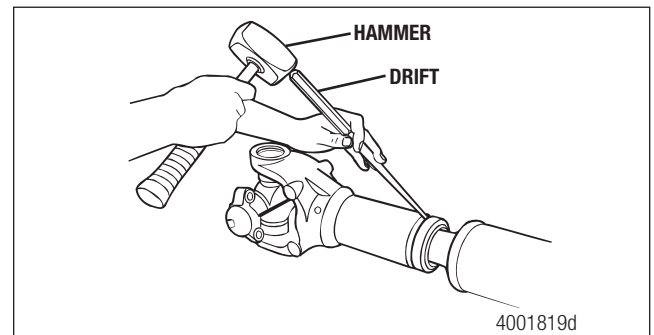

Figure 5.35
1. Use a brass or copper hammer and a drift to tap the shroud off the slip seal. Figure 5.35.